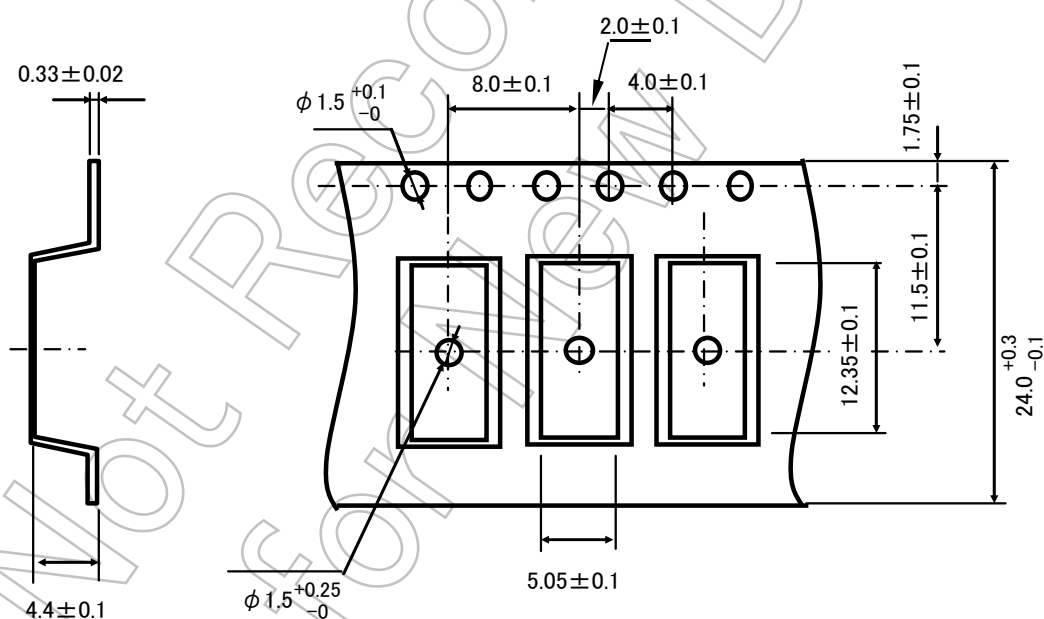

Figure 3 Tape Forms
- (1)Tape material: Plastic
(2)Dimensions: The tape dimensions are as shown in Figure 3.